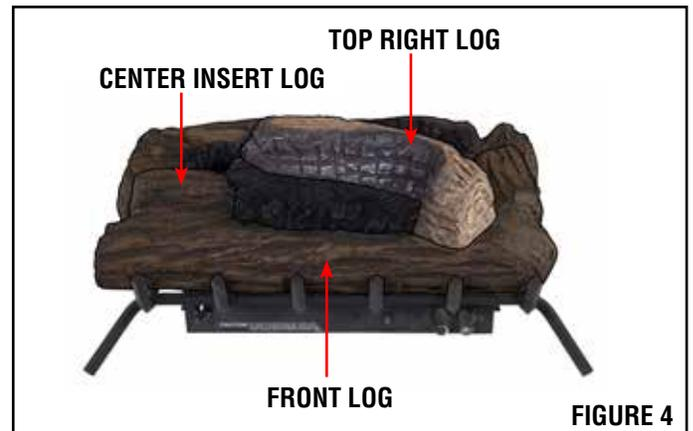

FIGURE 4
4. Place top right log by matching the two (2) protusions with the notches found in center insert log and front log (see *Figure 4*).